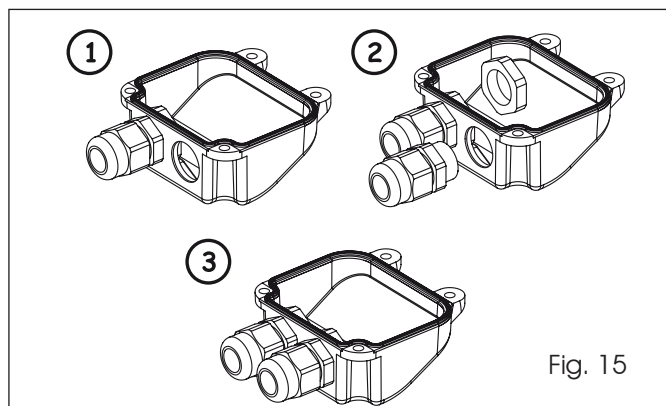

Fig. 15
1. Open the second pre-drilled hole in the cover, see Fig. 15.